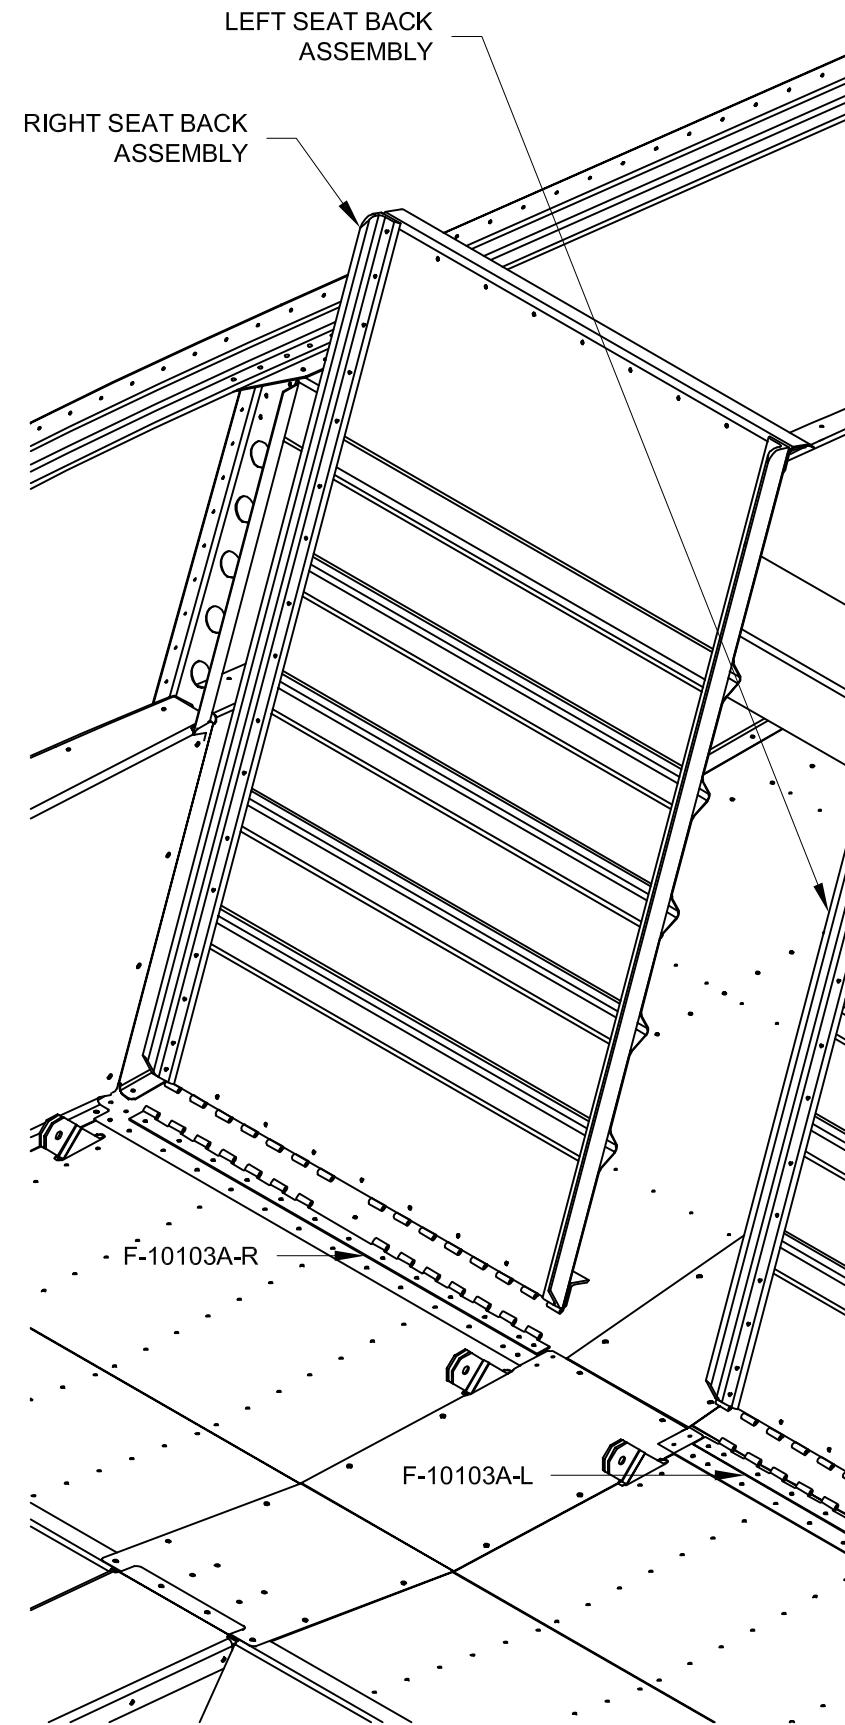

FIGURE 2: POSITIONING THE SEAT BACK ASSEMBLIES
Step 4: Place the Left and Right Seat Back Assemblies into position on the F-10103A Lower Seat Hinge Halves as shown in Figure 2.